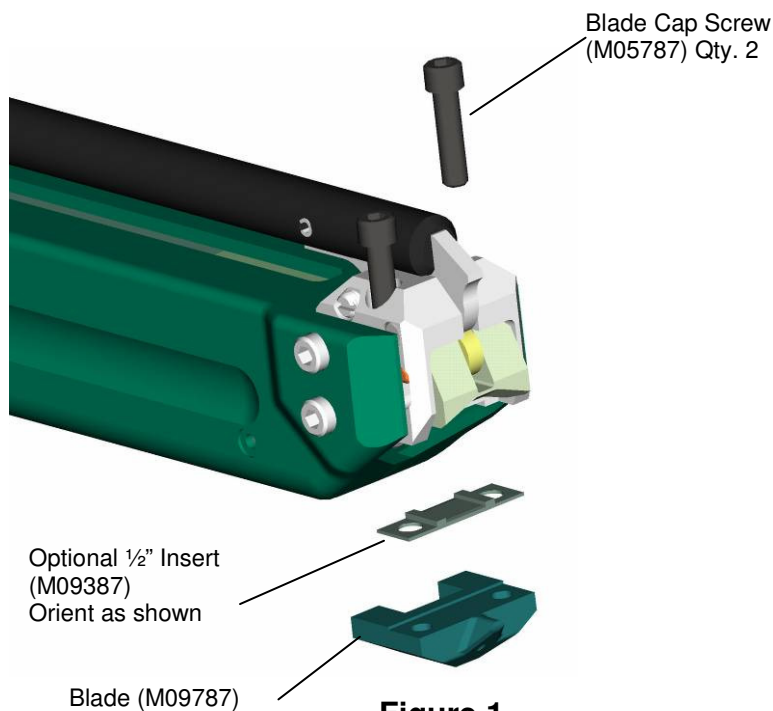

Figure 1
2. Remove the blade from head by removing two cap screws (M05787) from the top of the head. It is not necessary to remove entire head from tool in order to remove blade. (Figure 1) Remove the 3/4" adapter plate from the blade.
3. Align the 1/2" adapter plate (M09387) with the blade (M09787) so that the guide is facing up. Incorrect placement will not allow bands to be inserted into the tool. (Figure 1)